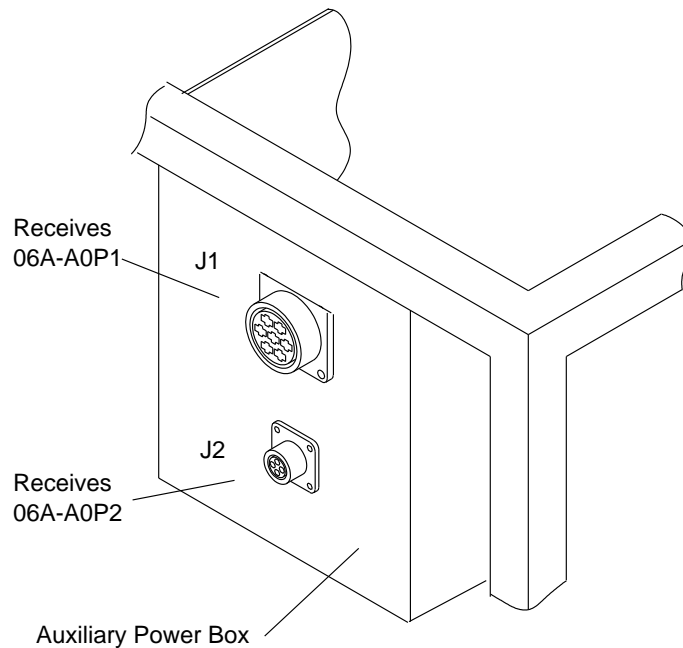

Figure 5-17. Power Sockets on the 3746-L14
- Step 2. \_\_\_\_ Plug cable **1** to the large socket (J1) of the adjacent frame at location 05A-A0J1. Plug cable **2** to the small socket (J2) at location 05A-A0J2. See Figure 5-17.